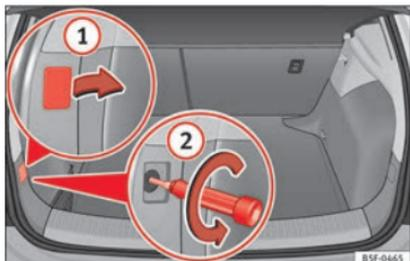

Fig. 217 Luggage compartment: location of the bolt securing the tail light unit.
- Remove the cover by prying the flat side of a screwdriver into the recess and remove the cover from the opening » **Fig. 217** ①.
- Carefully loosen the screw located behind the cover with a screwdriver, turning it anti-clockwise (arrows) » **Fig. 217** ②.